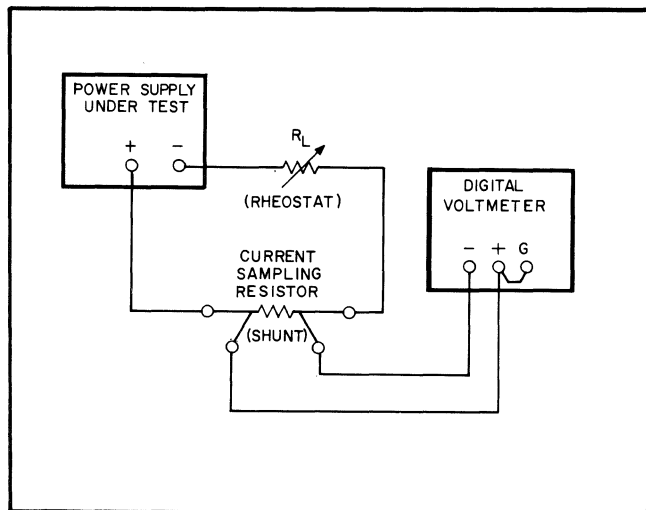

Figure 5-2. Output Current, Test Setup
- Connect test setup shown in Figure 5-2. Select load and current sampling resistor values according to Paragraphs 5-11 and 5-13.